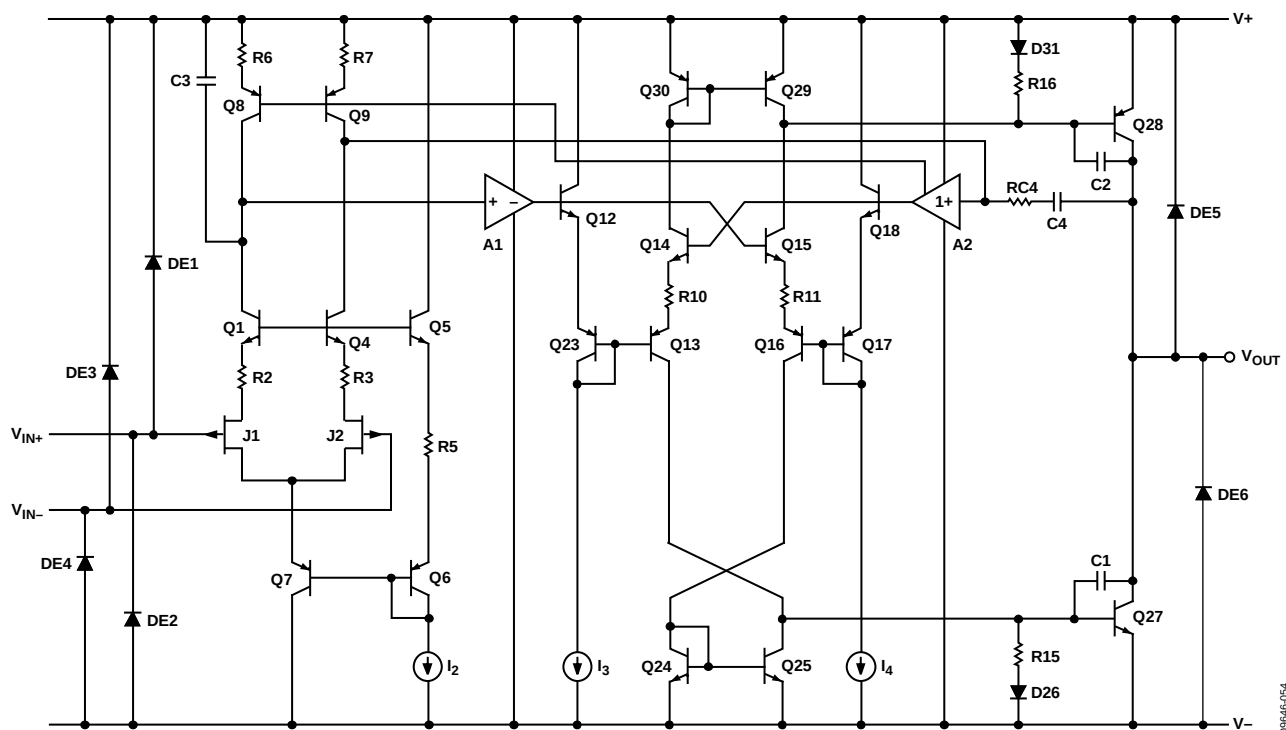

Figure 57. Simplified Schematic
The ADA4610-1/ADA4610-2/ADA4610-4 are manufactured using the Analog Devices, Inc., iPolar® process, a 36 V dielectrically isolated (DI) process with P-channel JFET technology. The unique architecture of the ADA4610-1/ADA4610-2/ADA4610-4 makes it possible to combine high precision and high speed characteristics into a high voltage, low power op amp. A simplified schematic for the ADA4610-1/ADA4610-2/ADA4610-4 is shown in Figure 57. The JFET input stage architecture offers advantages of low input bias current, high bandwidth, high gain, low noise, and no phase reversal when the applied input signal exceeds the common-mode voltage range. The output stage is rail to rail with high drive characteristics and low dropout voltage for both sinking and sourcing currents.